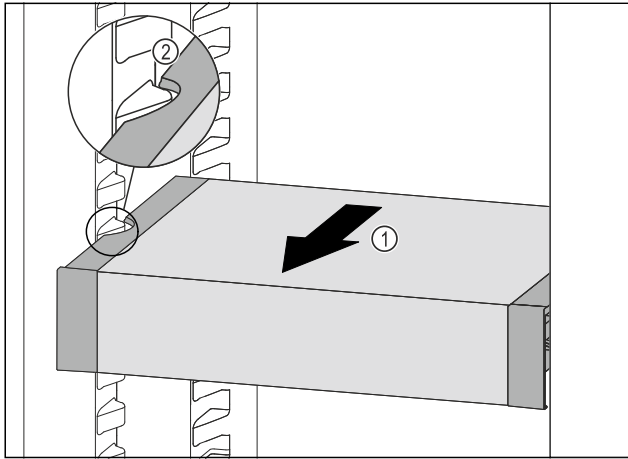

Fig. 68
- Pull VarioSafe forwards Fig. 68 (1) until the recesses in the side of the VarioSafe are at the level of the support rib in the refrigerator compartment. Fig. 68 (2)